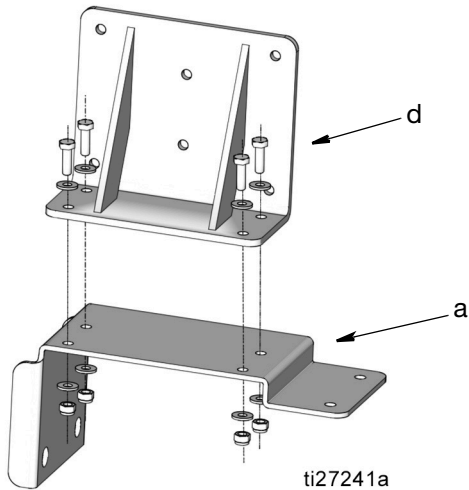

FIG. 41
5. Use the supplied 5/16 inch mounting hardware to install the G3 pump mounting bracket (d) to the adapter bracket (a) as shown in FIG. 41. Tighten securely.